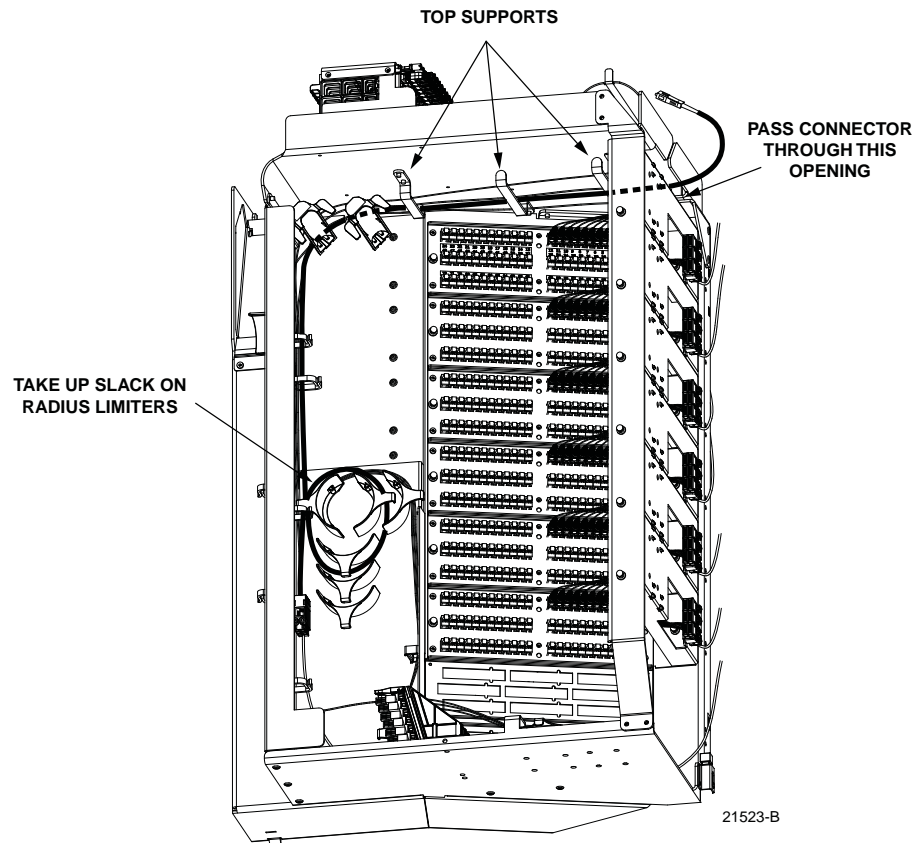

Figure 33. Re-Routing the Feeder Cable Fiber
6. When the feeder cable connector and fiber are free, pass the connector through the opening located behind the splitter compartment as shown in Figure 33.